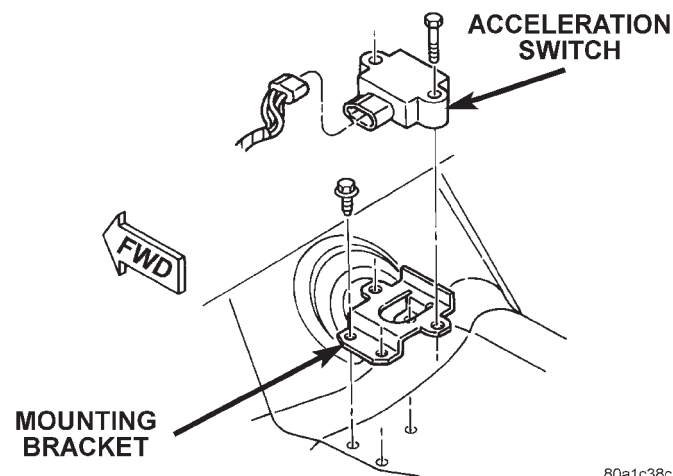

Fig. 15 Acceleration Switch
- (1) From the drivers side lift carpet back in front of the console/shifter.
- (2) Disconnect harness for switch.
- (3) Remove mounting bolts and remove switch (Fig. 15).